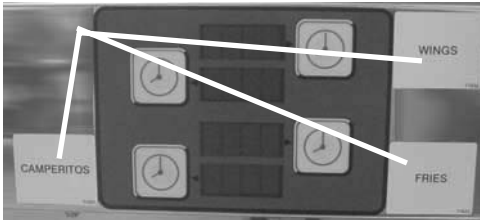

Figure 2
4. Locate the magnetic menu strips (shipped with the unit) and place them to the sides of the timers as desired. Figure 2.